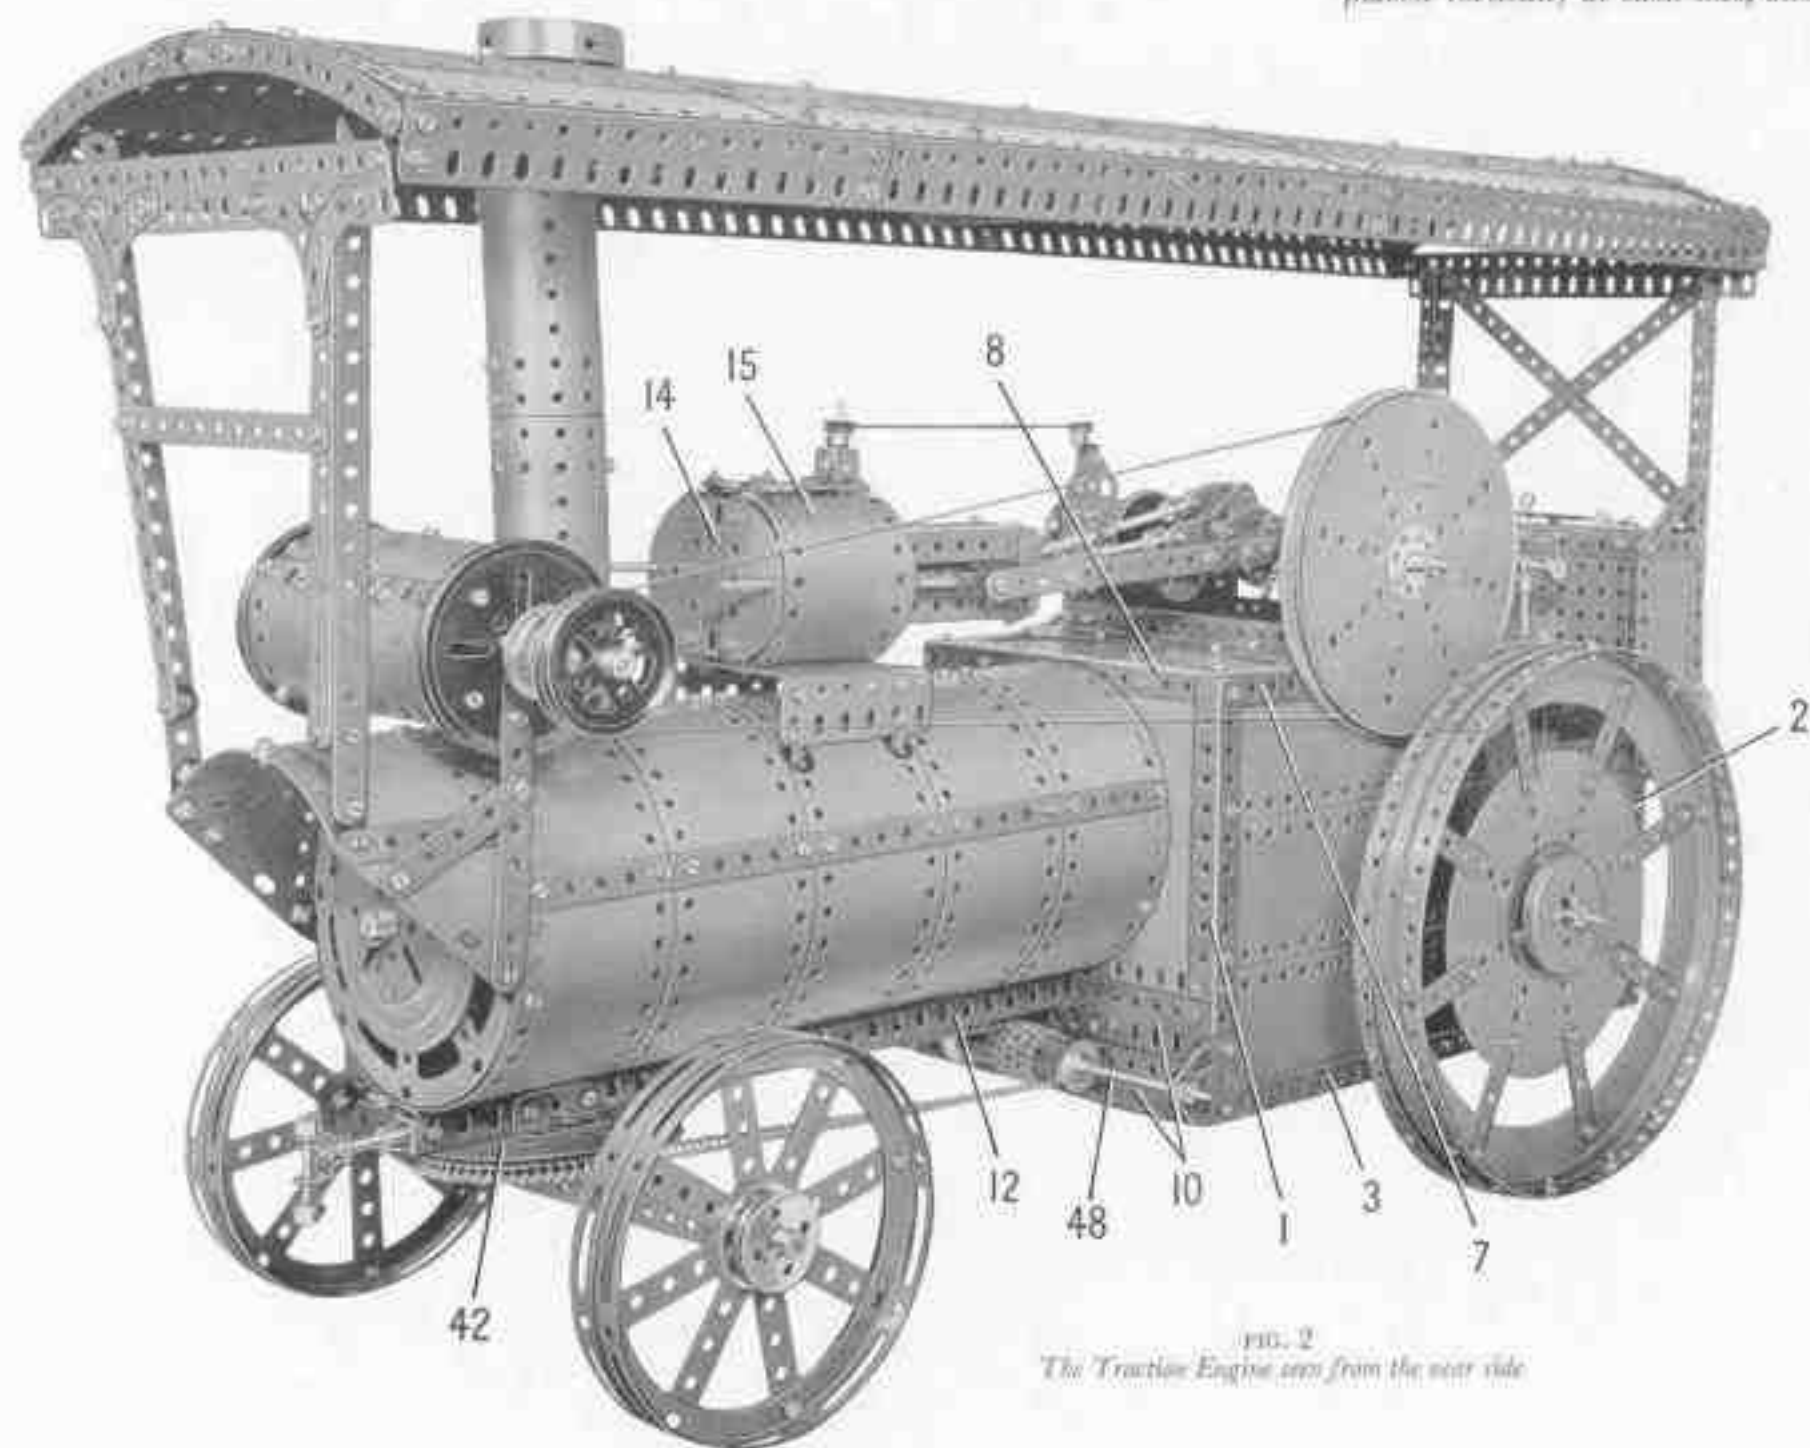

FIG. 2
The sides are connected together at the front by a $7\frac{1}{2}$ " Angle Girder (8) (Fig. 6), and a similar Girder (9) (Fig. 4). The front is partly filled in by a $5\frac{1}{2}$ " x $2\frac{1}{2}$ " Flexible Plate placed vertically at each side, and by two $7\frac{1}{2}$ " Flat Girders (10) (Fig. 2).
The boiler is built up on two $12\frac{1}{2}$ " Angle Girders bolted together to form a channel section girder (12). The boiler consists of five built-up plates, each made from a $12\frac{1}{2}$ " x $2\frac{1}{2}$ " Strip Plate and a $5\frac{1}{2}$ " x $2\frac{1}{2}$ " Flexible Plate bolted end to end and curved to shape. A $12\frac{1}{2}$ " Angle Girder is fixed inside the boiler diametrically opposite to the girder (12) and two $12\frac{1}{2}$ " Strips are bolted along the sides. The front and rear ends of the boiler are Hub Discs, but before the front is fixed in place the rear Hub Disc should be bolted to the Girders (8) and (9) of the body (Figs. 2 and 4). At the front the Flanged Disc of a Ball Thrust Bearing is bolted to the Hub Disc, and a Threaded Pin is fixed in a Threaded Boss that is mounted on a $\frac{1}{8}$ " Bolt.
The Cylinder Unit (Figs. 2 and 3)
The front end of the cylinder block is made from a 2 1/2" x 1 1/4" Flexible Plate (14) (Fig. 2) fitted along its longer edges with Semi-Circular Plates, and the rear end is formed by two Semi-Circular Plates. The ends are joined together by four 2 1/2" x 1/4" Double Angle Strips, and a 4 1/2" x 2 1/4" Flexible Plate (15) is curved to shape and bolted to the Double Angle Strips on each side. The lower pair of Double Angle Strips is bolted to the Flanged Plate (13). The top edges of the Plates (15) are connected to the Double Angle Strips by 1/2" Bolts placed with their shanks pointing upward. The top of the cylinder block is a 2 1/2" x 1 1/4" Flexible Plate edged by 2 1/2" and 1 1/4" Strips, and is held on the shanks of these Bolts by further nuts. A Double Bent Strip is fixed to the rear end of the 2 1/2" x 1 1/4" Flexible Plate and supports a 2" Rod that forms the governor shaft. The Rod is held in place by a Collar and a 1/2" fixed Pulley.
The Rear Wheels (Figs. 2 and 4)
The Front Axle and Steering Assembly (Figs. 2, 4 and 8)
The complete axle is attached to the Toothed Disc of a Ball Thrust Bearing by bolts that secure also a Double Arm Crank. A $2\frac{1}{2}$ " Rod fixed in the Double Arm Crank is passed through a Bush Wheel and a 4" Circular Plate (42) (Fig. 2), which is bolted to $1\frac{1}{2}$ " Angle Girders fixed to the girder (12). The $2\frac{1}{2}$ " Rod passes inside the boiler and is held in place by a Collar.